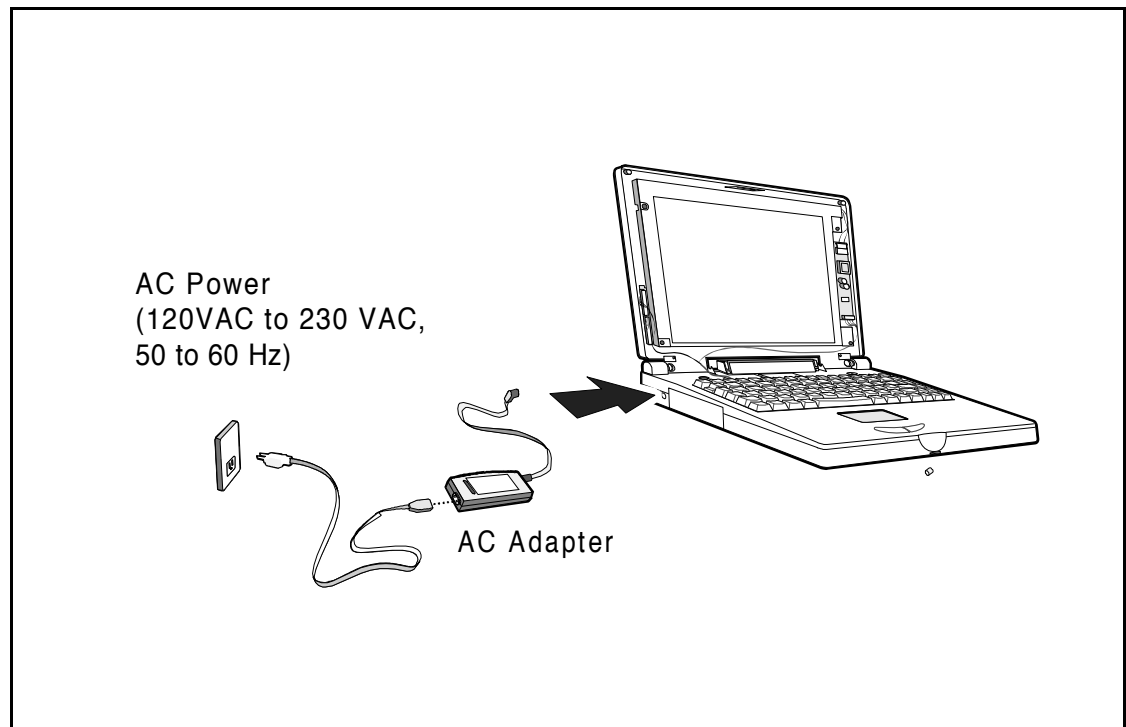

Figure 2-7 AC Adapter Installation
1. Remove the AC adapter from the packaging. Connect the round coaxial connector on the AC Adapter to the power receptacle on the left side (rear corner) of the notebook as shown in Figure 2-7.